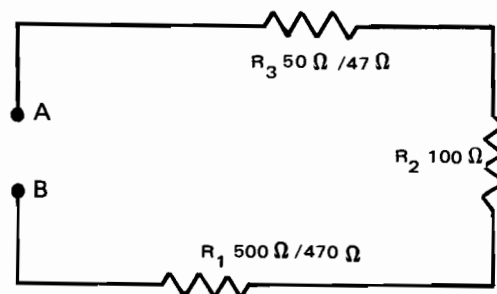

Fig. 5-1-1A
1. Connect a dc series circuit as shown in Fig. 5-1-1A, using a resistor decade module or discrete resistors.
- Prepare VOM to measure resistance. Measure and record total resistance of circuit between test points A and B in Fig. 5-1-1A. Total resistance (R_T) is _____ ohms. If this value is significantly smaller or larger than calculated value of step 3, measure each resistor to see if it is intended value. Make necessary changes to correct circuit.